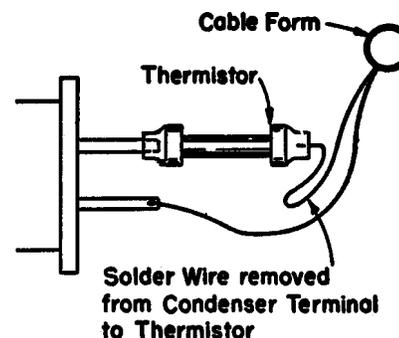

Fig. 1
3.03 Solder the wire (the wire removed or new wire as required by the particular circuit modification) to the other end of the thermistor. A typical modification is shown in Fig. 1.